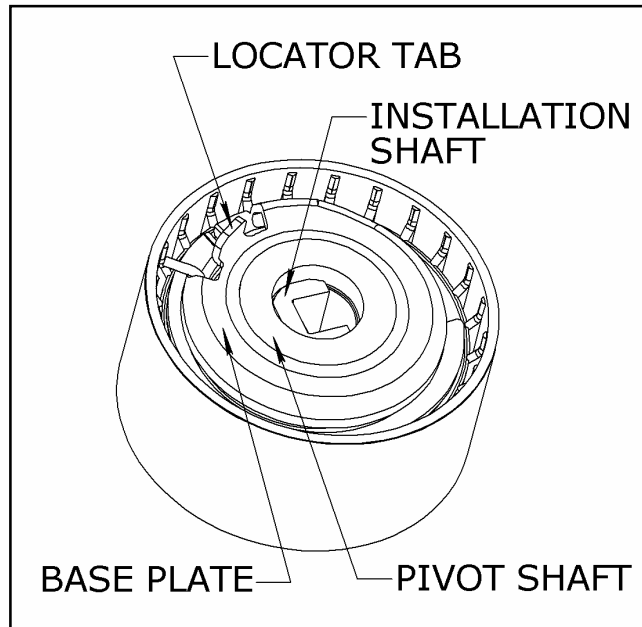

Figure 2: Tensioner's back view
3. Once the procedure for setting the TDC is completed, use a 6mm Allen key to prevent the rotation of the installation shaft and loosen the mounting bolt (Figure 2 and 3). Once the mounting bolt is loosened, rotate the installation shaft counterclockwise to release the belt tension.
5. Mount the new timing belt tensioner on the engine with an M8 bolt, and ensure that the tensioner Locator Tab (Figure 2) is engaged with the Anti-Rotation Slot in the cylinder head.